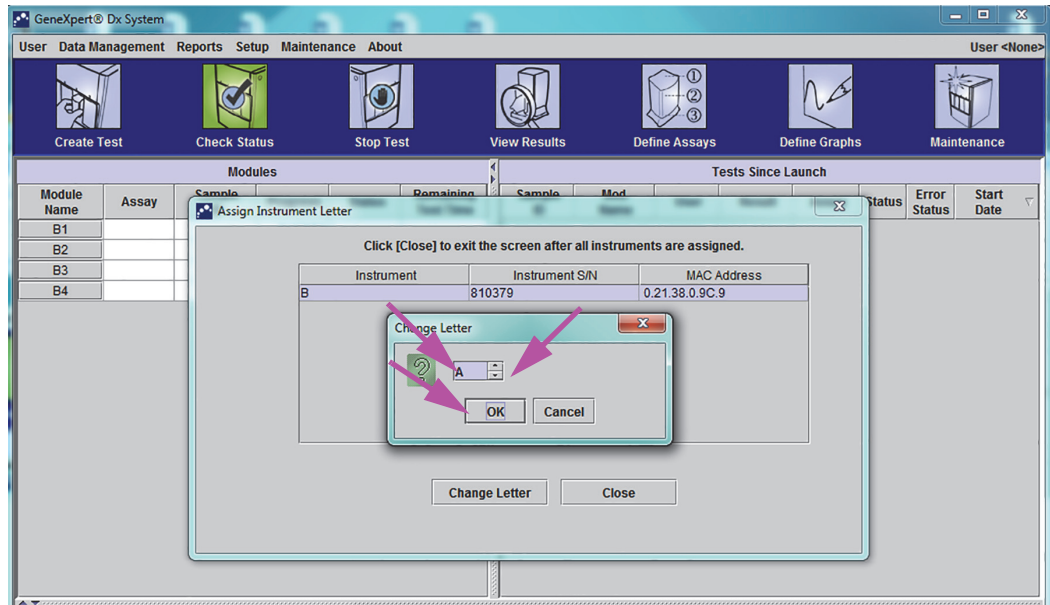

Figure 2-29. GeneXpert Dx System Window with Change Letter Dialog Box Overlay
The Change Letter dialog box appears, as shown in Figure 2-29. Select the letter to be assigned to the module(s) by using the up and down arrows of the Change Letter dialog box.
6. After changing the assignment letter, click **OK** (see Figure 2-29).